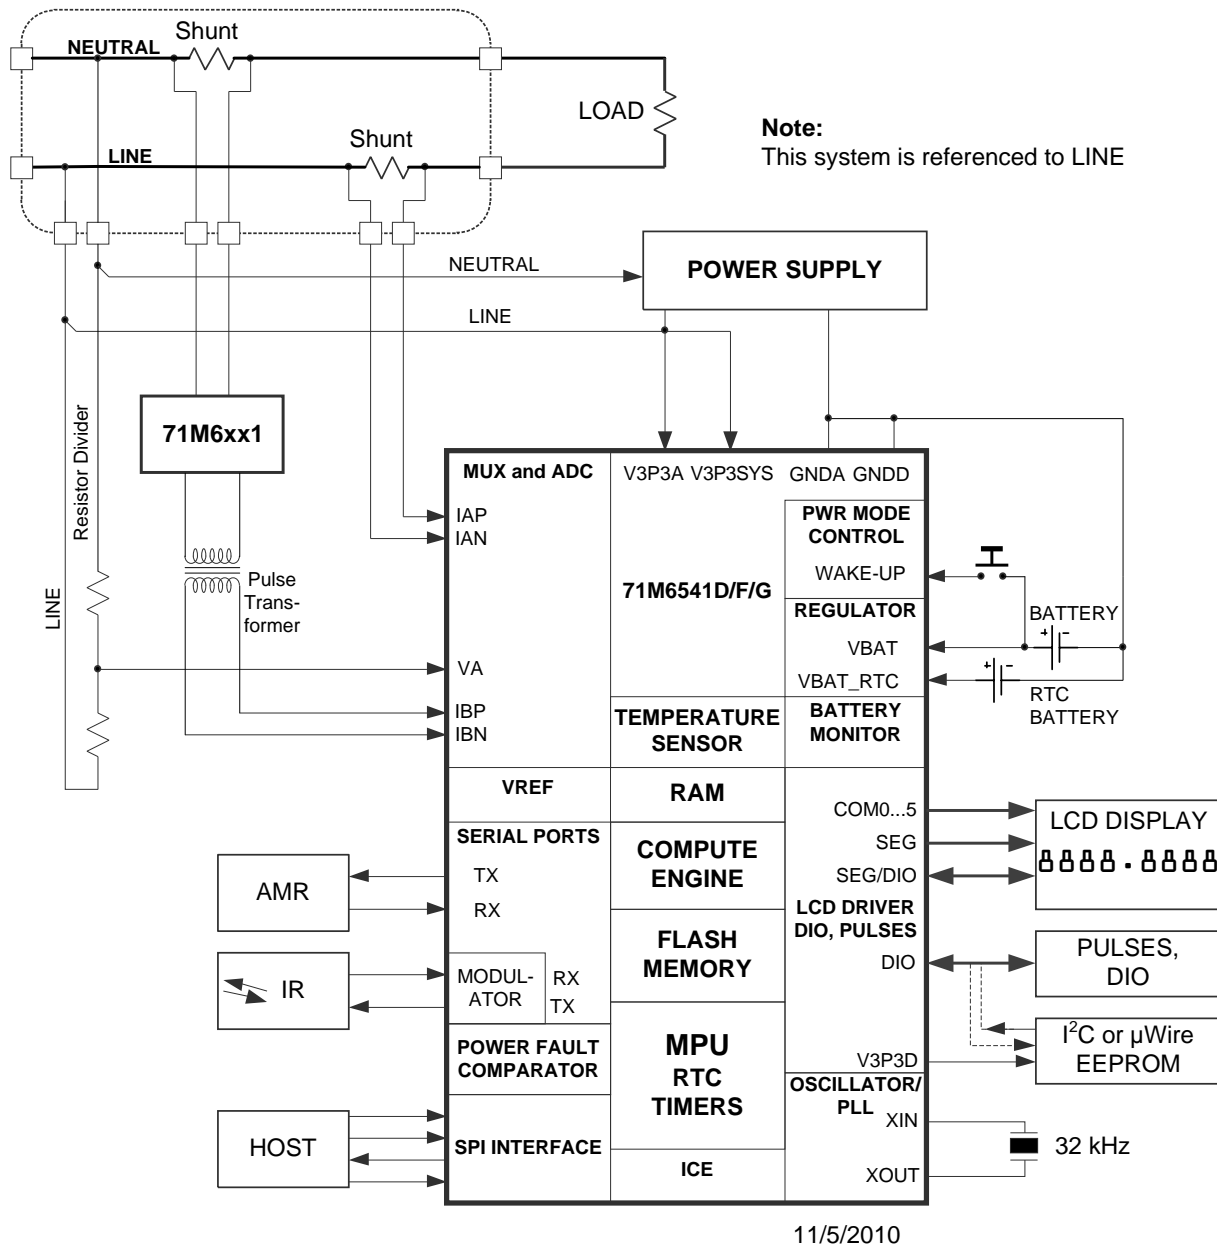
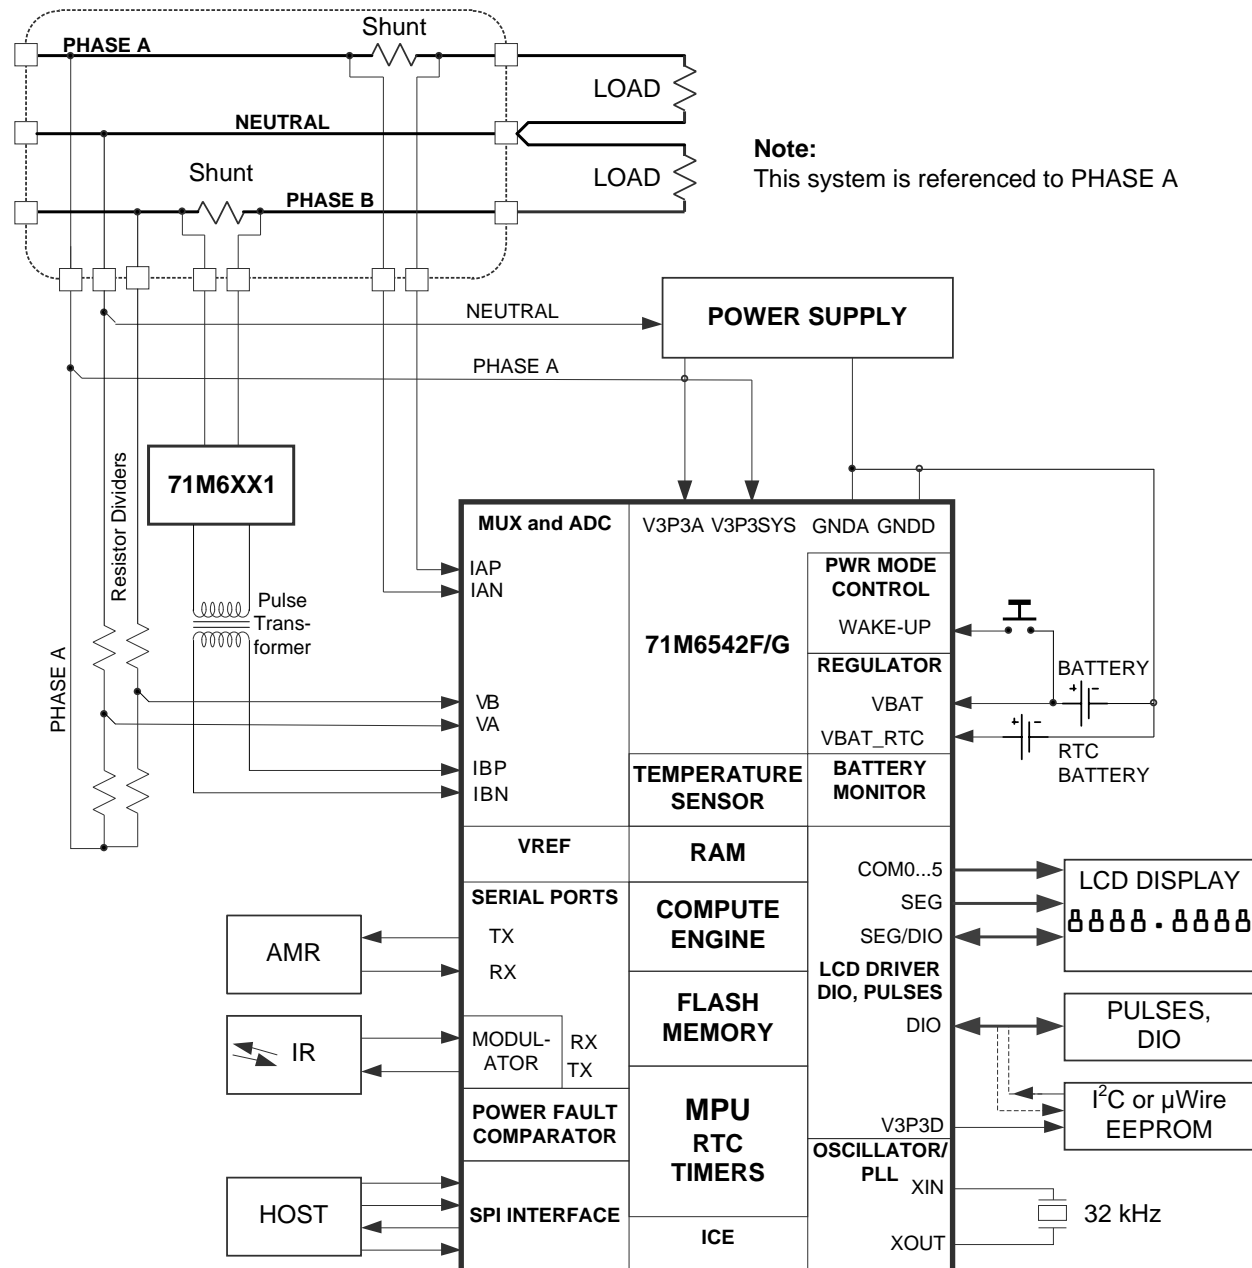

Figure 36: 71M6541D/F/G with 71M6x01 isolated Sensor
Figure 38: 71M6542F/G with 71M6x01 Isolated Sensor
Figure 36 shows a typical connection for one isolated and one non-isolated shunt sensor, using the 71M6x01 Isolated Sensor Interface. This configuration implements a single-phase measurement with tamper-detection using the second current sensor. This configuration can also be used to create a split phase meter (e.g., ANSI Form 2S). For best performance, the IAP-IAN current sensor input is configured for differential mode (i.e.,  $DIFFA\_E = 1$ , I/O RAM 0x210C[4]). The outputs of the 71M6x01 Isolated Sensor Interface are routed through a pulse transformer, which is connected to the pins IBP-IBN. The IBP-IBN pins must be configured for remote sensor communication (i.e.,  $RMT\_E = 1$ , I/O RAM 0x2709[3]). See Figure 3 for the AFE configuration corresponding to Figure 36.
Figure 38 shows a 71M6542F/G configuration using locally connected current sensors. The IAP-IAN current channel may be directly connected to either a shunt resistor or a CT, while the IBP-IBN channel is connected to a CT and is therefore isolated. This configuration implements a dual-phase measurement utilizing Equation 2. For best performance, both the IAP-IAN and IBP-IBN current sensor inputs are configured for differential mode (i.e.,  $DIFFA\_E = 1$  and  $DIFFB\_E = 1$ , I/O RAM 0x210C[4] and 0x210C[5]). The IBP-IBN input must be configured as an analog differential input disabling the remote sensor interface (i.e.,  $RMT\_E = 0$ , I/O RAM 0x2709[3]). See Figure 4 for the AFE configuration corresponding to Figure 38.
Figure 38 shows a typical two-phase connection for the 71M6542F/G using one isolated and one non-isolated sensor. For best performance, the IAP-IAN current sensor input is configured for differential mode (i.e.,  $DIFFA\_E = 1$ ,  $I/O\ RAM\ 0x210C[4]$ ). The 71M6x01 Isolated Sensor Interface is used to isolate phase B. The outputs of the 71M6x01 Isolated Sensor Interface are routed through a pulse transformer, which is connected to the pins IBP-IBN. The IBP-IBN pins must be configured for remote sensor communication (i.e.,  $RMT\_E = 1$ ,  $I/O\ RAM\ 0x2709[3]$ ). See Figure 5 for the AFE configuration corresponding to Figure 38.
This section discusses metrology temperature compensation for the meter designs where current shunt sensors are used in conjunction with the 71M6x01 isolated sensors, as shown in Figure 36 and Figure 38.
Referring to Figure 36 and Figure 38, the VA voltage sensor is available in the 71M6541D/F/G and 71M6542F/G and is directly connected to the 71M654x. The VB voltage sensor is available only in the 71M6542F/G and is also directly connected to it. Thus, the precision of these directly connected voltage sensors is affected by VREF in the 71M654x. The 71M654x also has one shunt current sensor (IA) which is connected directly to it, and therefore is also affected by the VREF in the 71M654x. The external current sensor and its corresponding signal conditioning circuit also has a temperature dependency, which also may require compensation, depending on the required accuracy class. Finally, the second current sensor (IB) is isolated by the 71M6x01 and depends on the VREF of the 71M6x01, plus the variation of the corresponding shunt resistance with temperature.